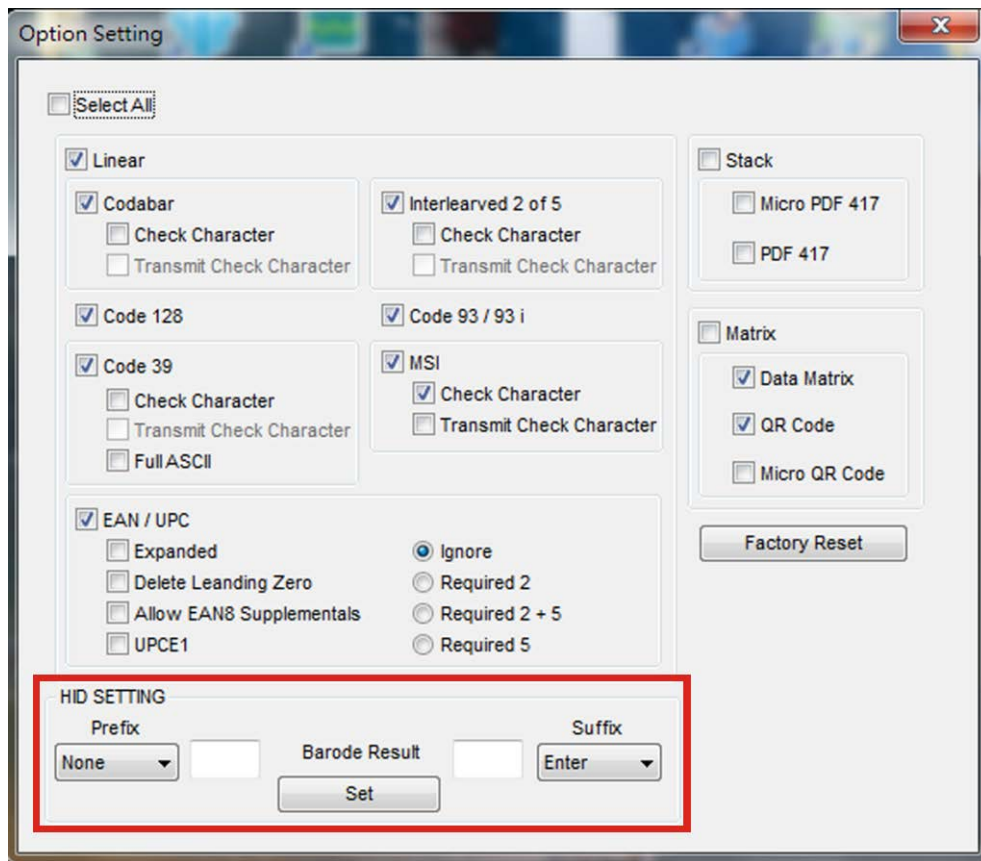

Figure 3-10: Option Setting Menu – HID Setting
Step 4: For configuring the HID settings (editing the decode result), the user can key in the prefix and suffix characters, and select **None**, **Enter**, **Tab** or **Space** as the prefix/suffix control character (**Figure 3-10**). After configuration, click **Set** to apply the settings.